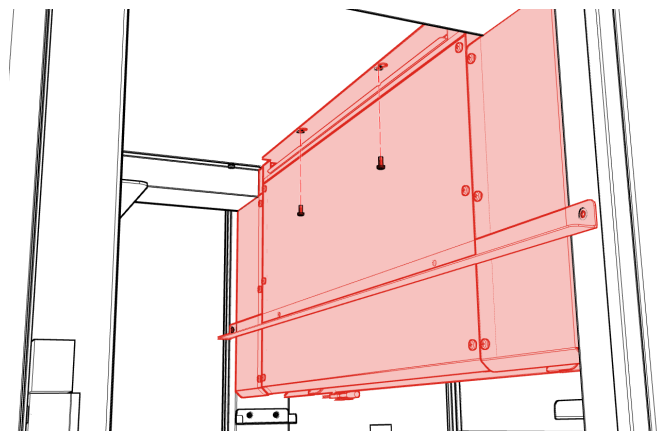

Fig. 12
4. Loosen two (2) M5 × 12 screws on EACH side of evaporator module fastening top of module to refrigerator (Fig. 12). Slide module back, then away from refrigerator interior to remove.